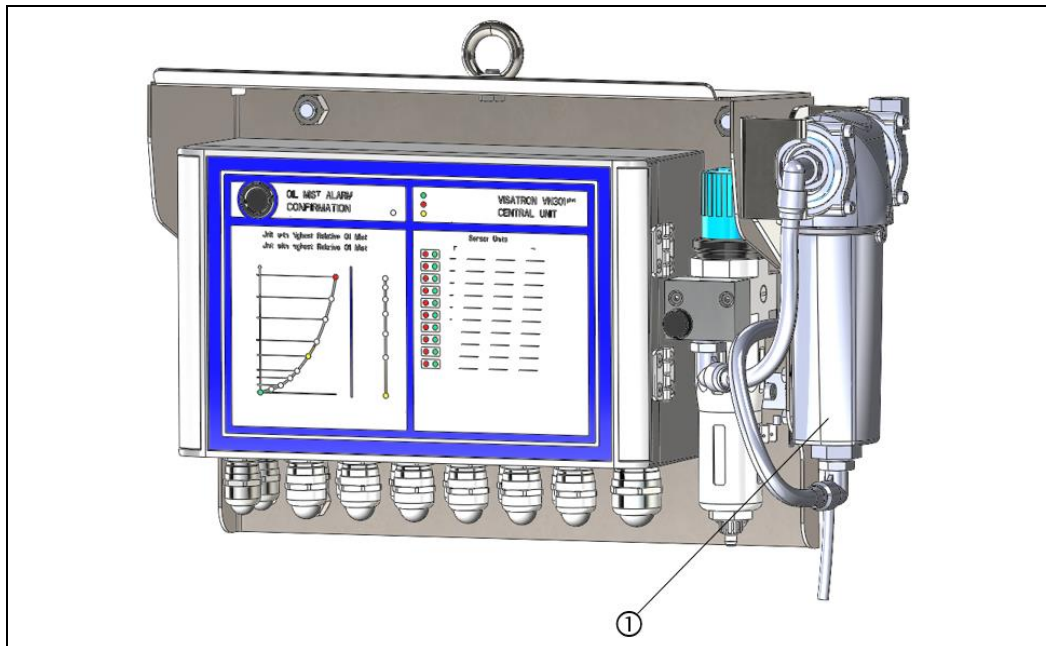

Fig.: 15 : VN301^{plus} central unit, version with water separator
- Water separator function (see Figure 15)